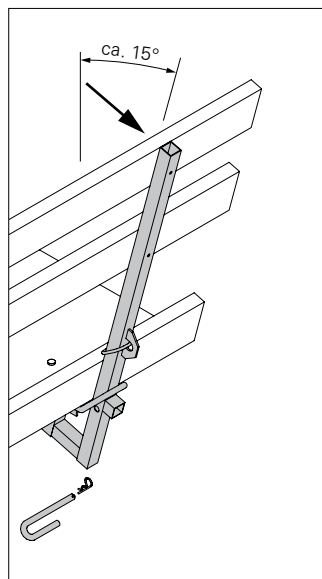

Fig. A7.24c
2. Incline the guardrail (89.1) backwards, max. 15°. (Fig. A7.24c)